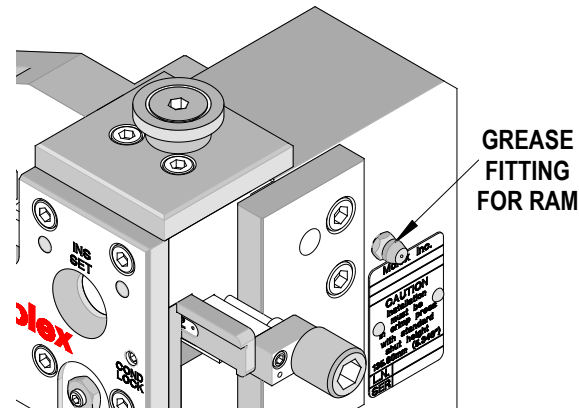

Figure 5-1
3. Use a grease gun on the Zerk fitting to grease the ram guides. See Figure 5-1.